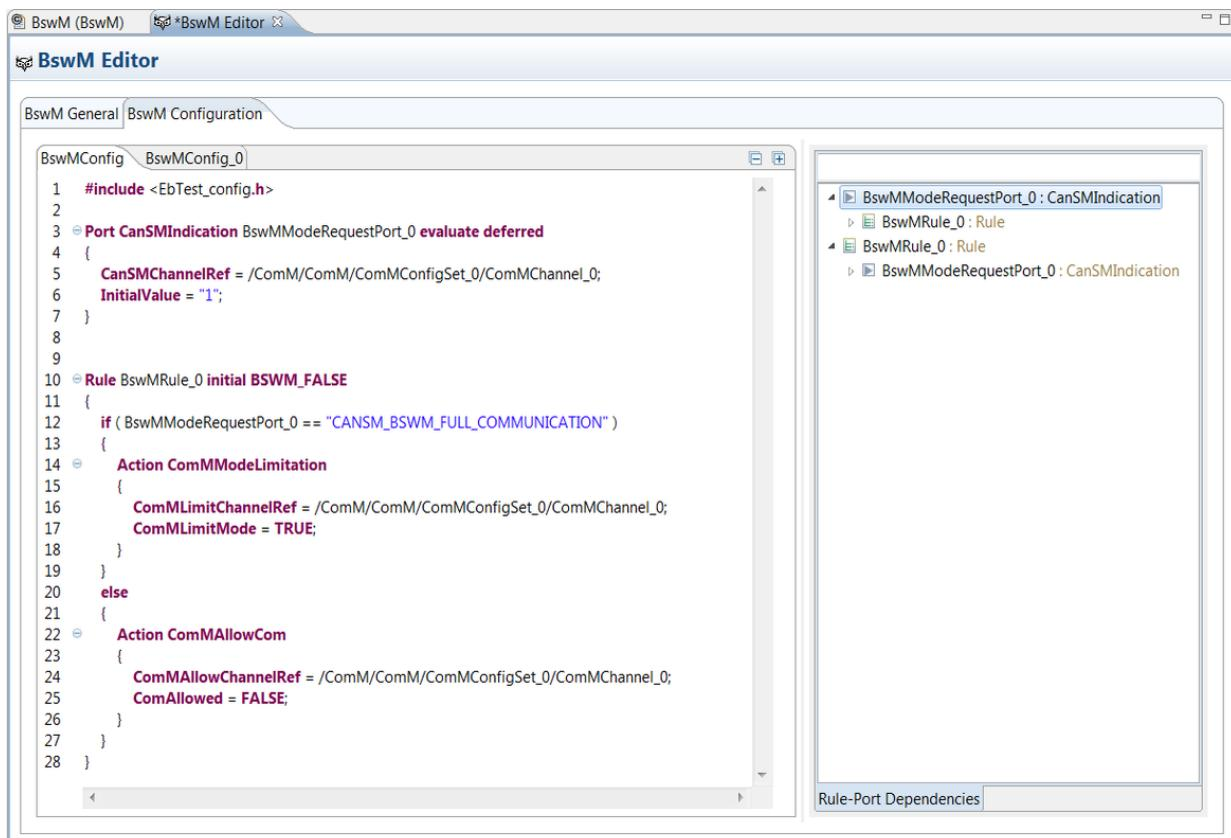

Figure 4.13. BswM Editor
8. Use this context-sensitive editor to create mode requests, switch ports, and rules. Figure 4.13, “BswM Editor” shows the editor with an example mode request. Further examples are given in later sections.